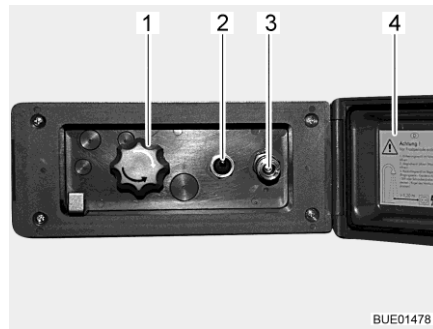

Fig. 178 External shower connection point
- Unlock and open the cover (Fig. 178,4).
- Attach hose of the external shower to the quick closure (Fig. 178,3).
- Switch on the water pump using the switch (Fig. 178,2).
- Adjust the water temperature with the rotary knob (Fig. 178,1) as desired.
- Switch off the water pump using the switch (Fig. 178,2).
- Close the cover (Fig. 178,4) and lock with key.
- Turn knob (Fig. 178,1) to the central position.